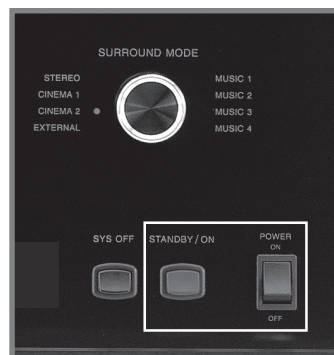

Figure 16
- Place the MHT Series Main POWER Switch to the ON position and press the STANDBY/ON Push-button. Refer to figure 16.